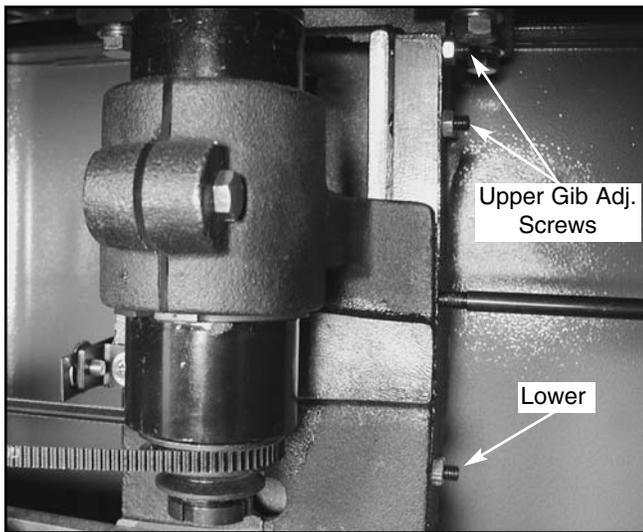

Figure 15. Gib adjustment screws.
1. Elevate the spindle to its maximum 3" height. Test the spindle for movement from left to right after tightening the spindle assembly lock knob. If there is movement, adjust the gib against the elevation housing, using the adjustment screws at the top and bottom of the elevation housing. **Figure 15** shows the two upper gib adjustment screws and locknuts. One of the two lower adjustment screws is also visible in the photo.